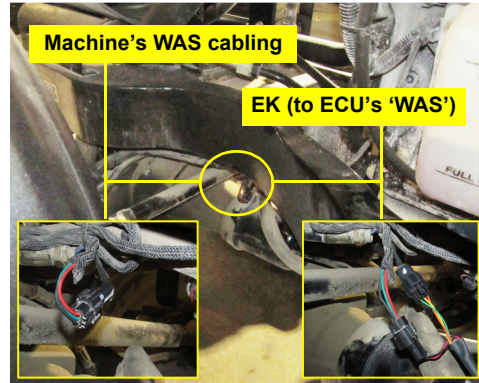

Figure 3f: WAS cable (re)connections
- h. Locate the machine's wheel angle sensor cable connectors behind the front axle, on the left side near the tie rod (Figure 3f and left inset). Split the connectors and connect WAS adapter cable **EK**'s branches to the machine's cable connectors (Figure 3f right inset). Connect the other end of **EK** to **EC**'s branch cable labeled 'WAS'.